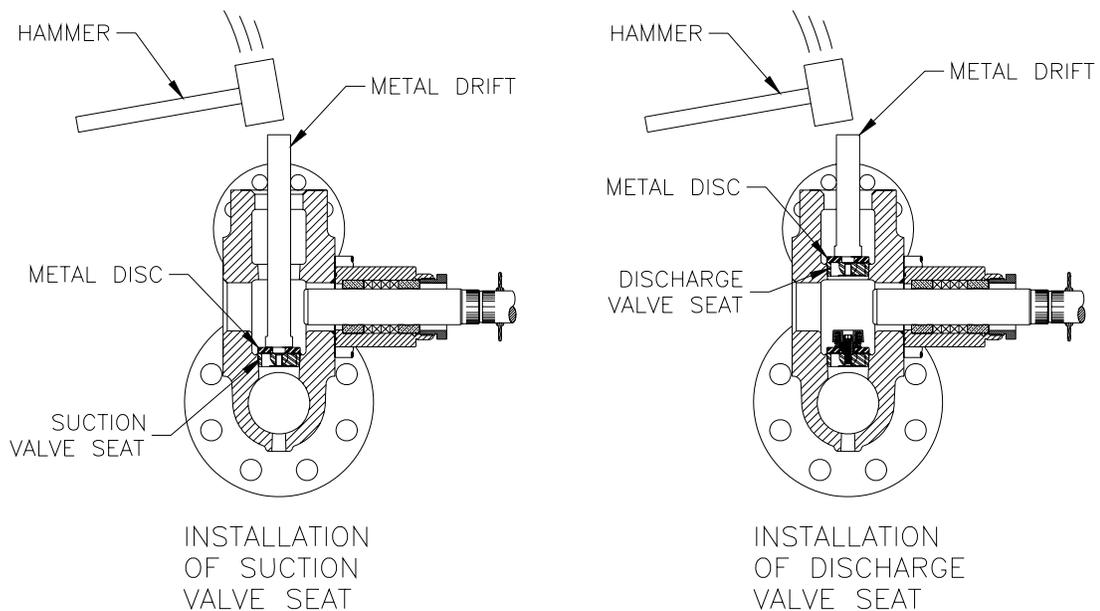

FIGURE 10
- d. Using a metal plate or old worn valve body, drive the seat into place with several sharp blows from a hammer and bar. See Figure 10.